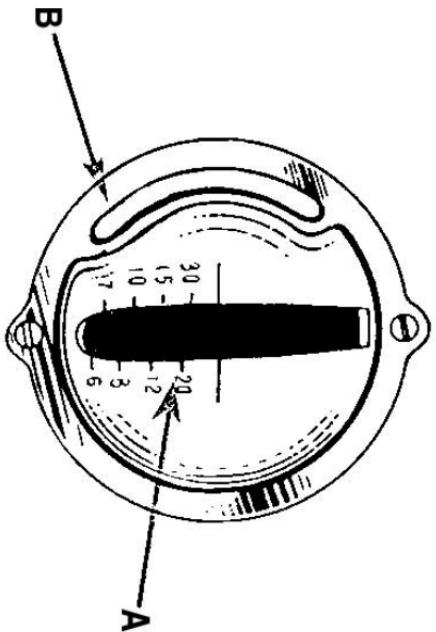

Fig. 12
With the needle raised and the threads drawn back at least 4 inches through the toes of the presser foot, place the material to be sewn beneath the presser foot and lower the presser foot lift lever. Turn the hand wheel toward you until the needle enters the material. Regulate the desired stitch length (Fig. 12) and start sewing.
Loosen the stitch length stop control (B, Fig. 12) and move it to the bottom of the slot. Move the stitch length lever (A, Fig. 12) to the desired stitch length. Now, move the stop control up until the control plate (visible in the stitch length slot) touches the bottom of the stitch length lever. Tighten the thumb screw (B) with finger pressure only. At this point, the stitch length is "marked," and you can move the lever up to sew in reverse at approximately the same stitch length, and then return it to your desired forward length.